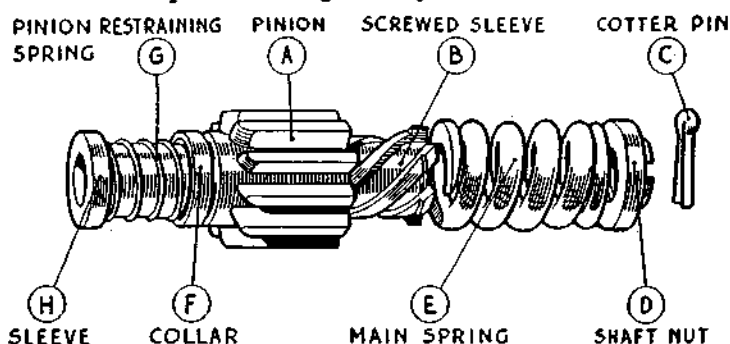

Fig. 17.
- Unscrew the four pole shoe retaining screws by means of the wheel operated screwdriver. (See Fig. 17).